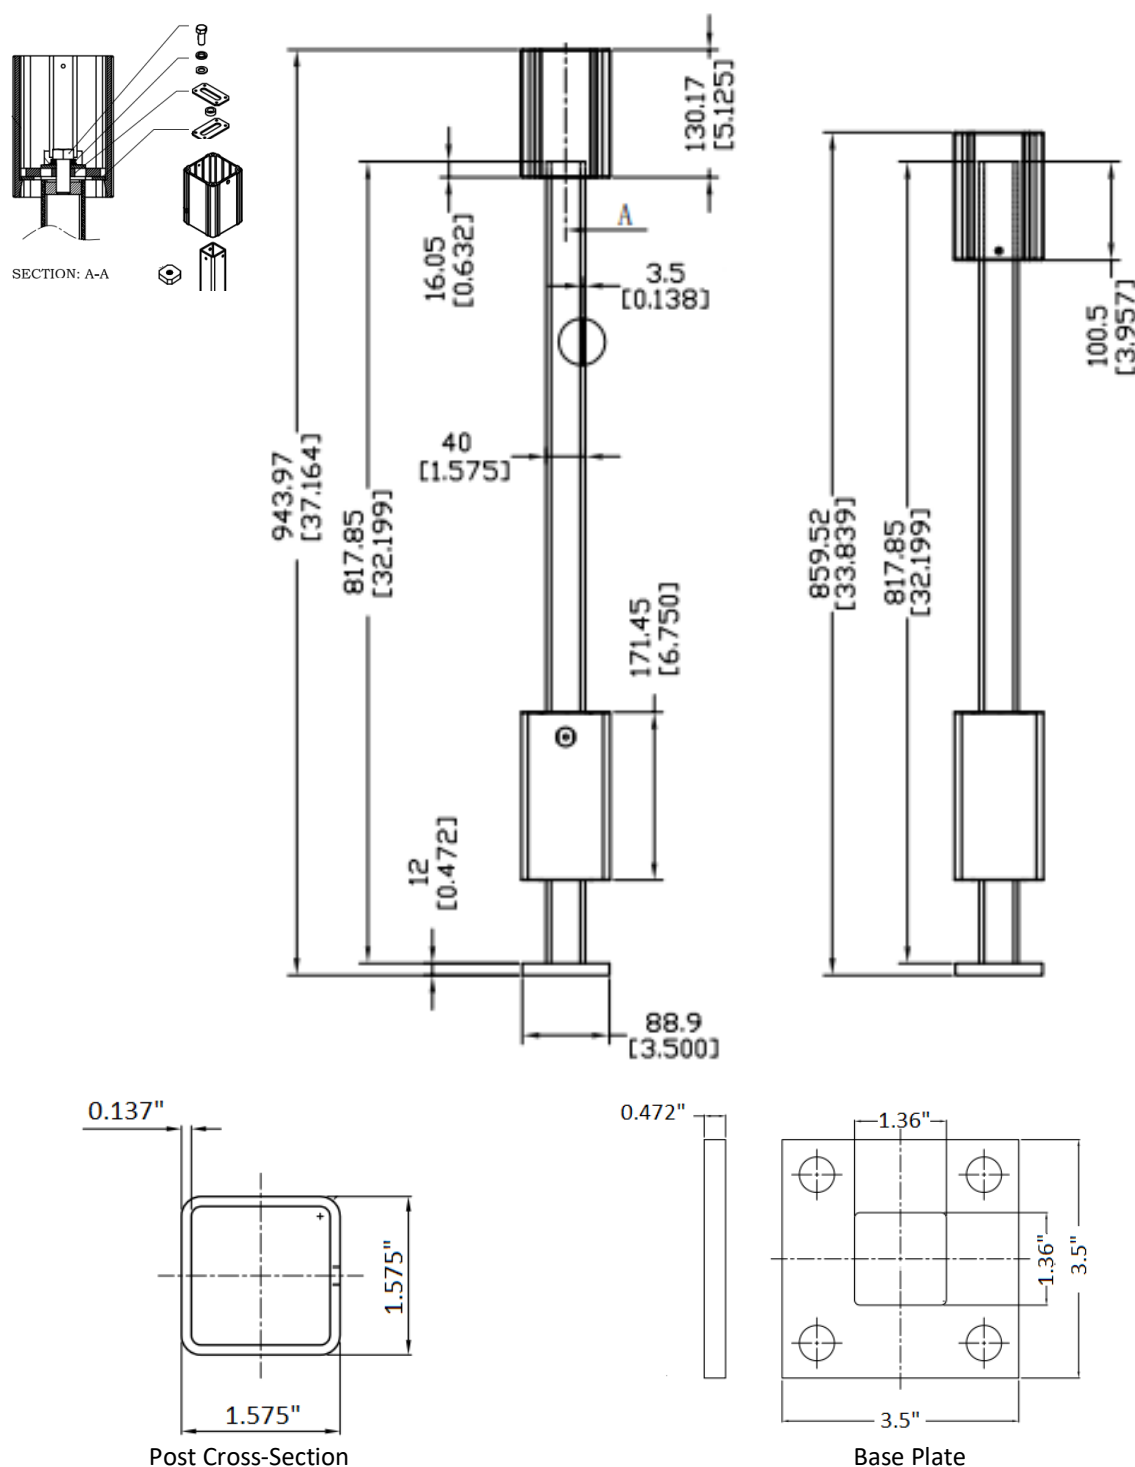

FIGURE 4 – PLUMB PERFECT PRO SERIES POST MOUNT SYSTEM
3.6.1 Post – 1.575-inch-square x 0.137-inch-thick hollow steel tube (See Figure 4).
3.6.2 Base Plate – 3.5-inch-square x 0.472-inch-thick steel plate with (4) 0.52-inch-diameter holes at each corner (See Figure 4).